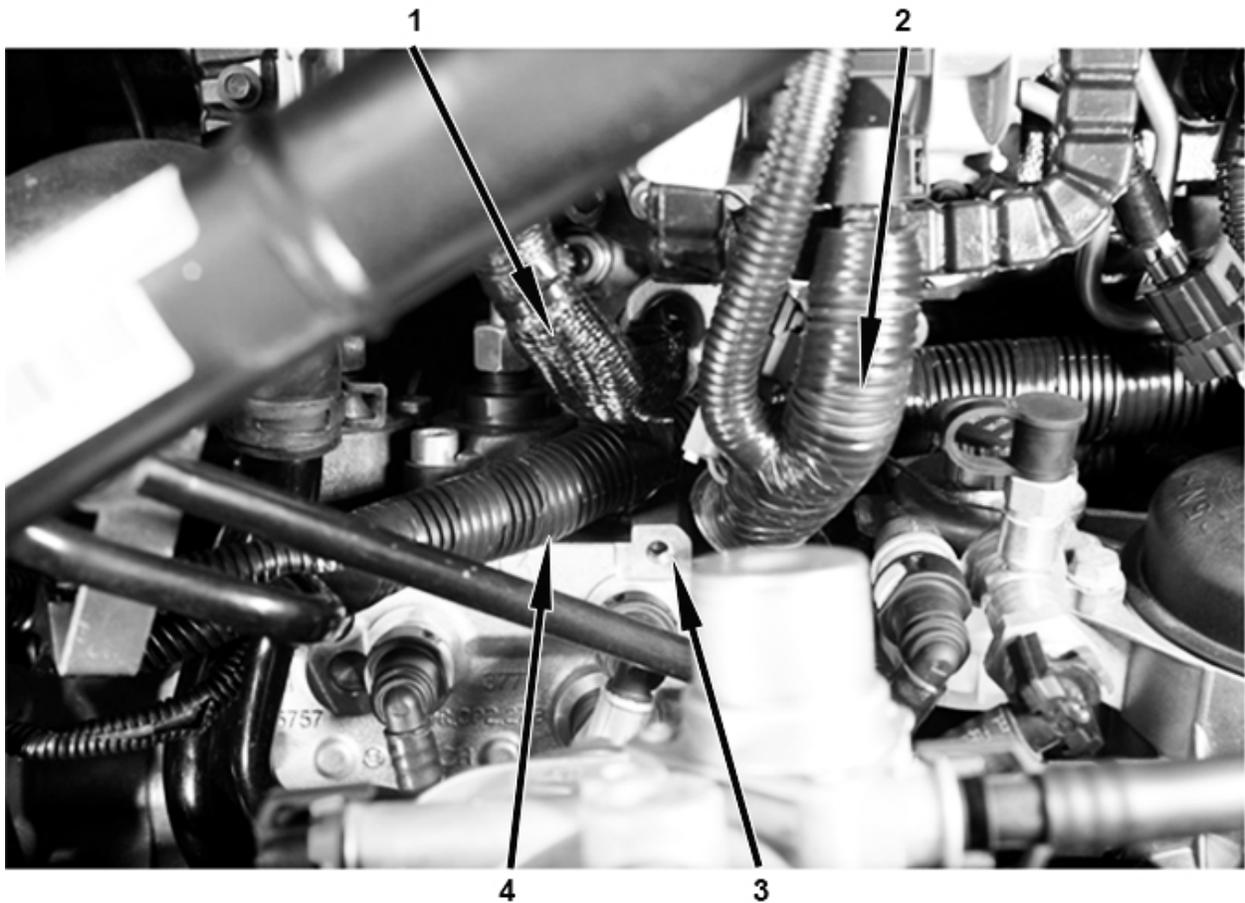
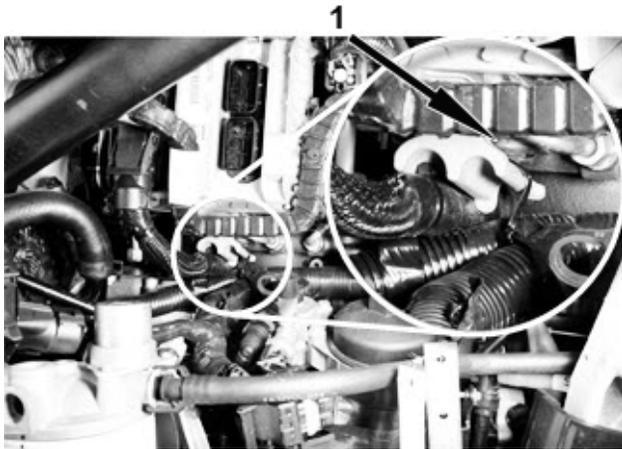

Figure 22
Figure 23
9. Locate and remove existing cable tie strap or straps that secure alternator harness, ECM to sensor harness, and chassis-to-ECM harness onto Bosch strain-relief ECM bracket (Figure 22).
10. Insert a new cable tie strap (306132C1) through Bosch strain-relief ECM bracket, around alternator harness, and ECM-to-sensor harness and tighten cable tie strap enough to lift harnesses off pump screw boss (Figure 22 and Figure 23).